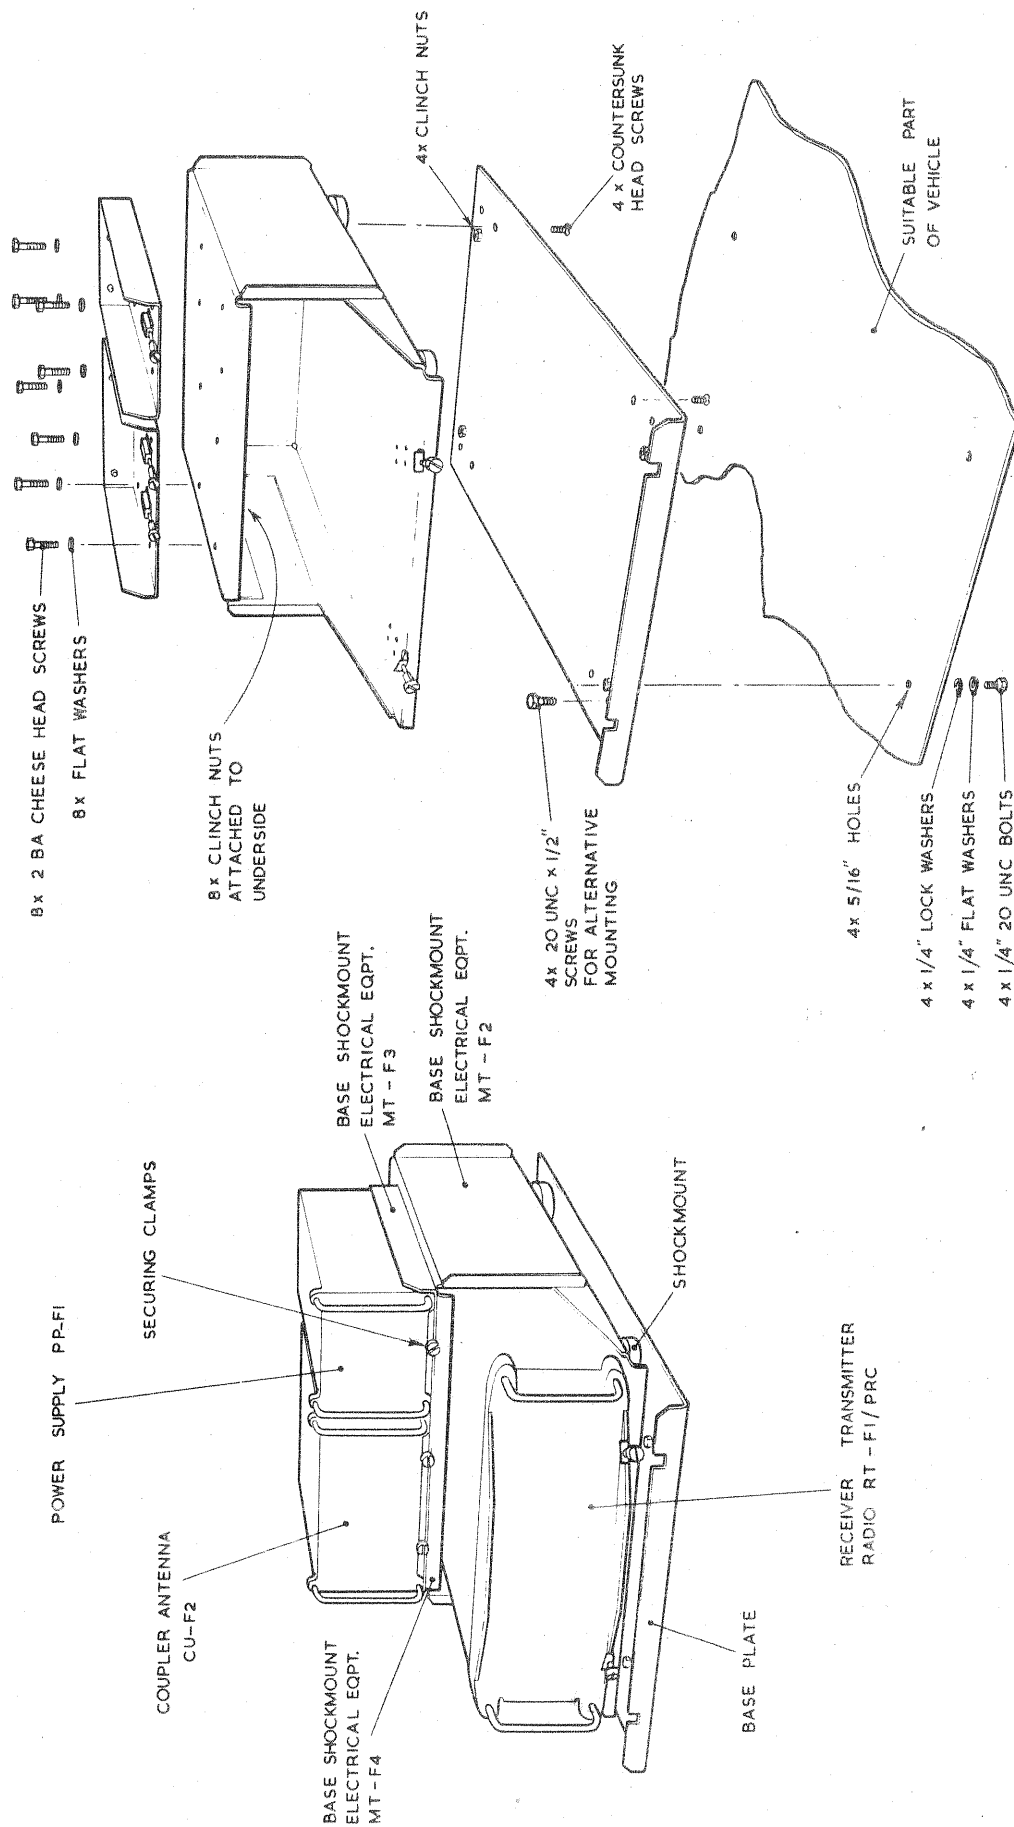

FIG 9 - BASE, SHOCK MOUNT - ASSEMBLY DETAIL
- (a) BASE, Shock Mount – Assembly Detail (Fig 9)
(b) Main Electronic Assembly (Refer to Fig 9)